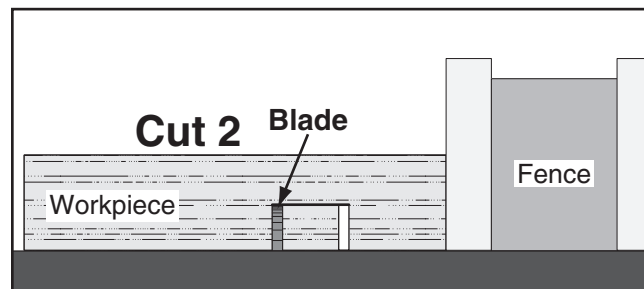

Figure 58. Second cut for a single blade dado.
8. Repeat cutting operation on other side of dado channel, as shown in **Figure 58**.